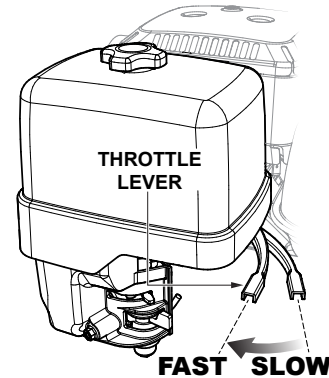

Figure 15. Throttle Lever (1/3 Start Position)
3. Move the throttle lever (Figure 15) away from the slow position, about 1/3 of the way toward the fast position.